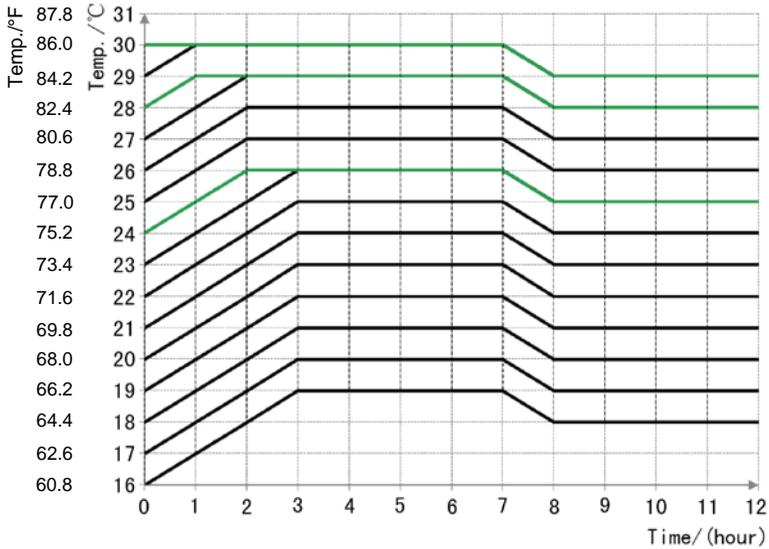

Fig. 14 Sleep Curve under the Cooling Mode
- ①. After a power outage and recovery, the Sleep function is defaulted to OFF.
- ②. The Sleep function is unavailable under the Fan mode.
- ③. When the Quiet function is activated, the Quiet function will be ON whether the Sleep function is activated or deactivated.
- ④. When activating the Sleep function under Cooling mode, the temperature range can be 16~23°C (61~73°F), 24~27°C(75~81°F), 28~29°C(82~84°F) or 30°C(86°F). Each of them has a different curve as shown in Fig. 14.